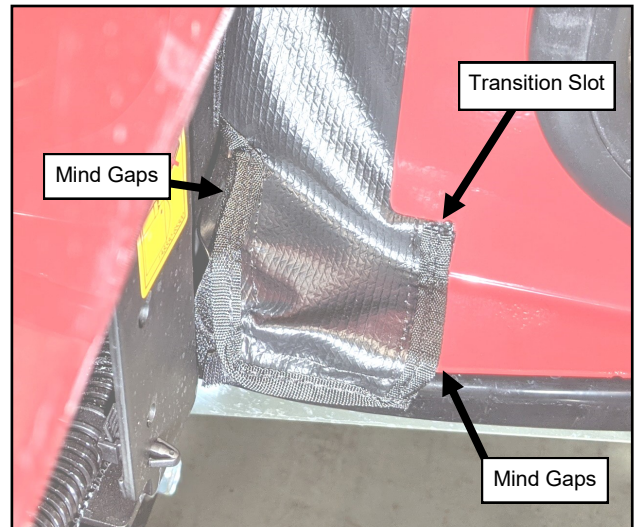

Fig. 14.5 (Outside View Of Left Side Transition)
- 14.5** Secure outside of the left side of the filler to the cowl and floor pan. See Figure 14.5. Ensure there are no gaps between the filler, the cowl, and the floor pan.